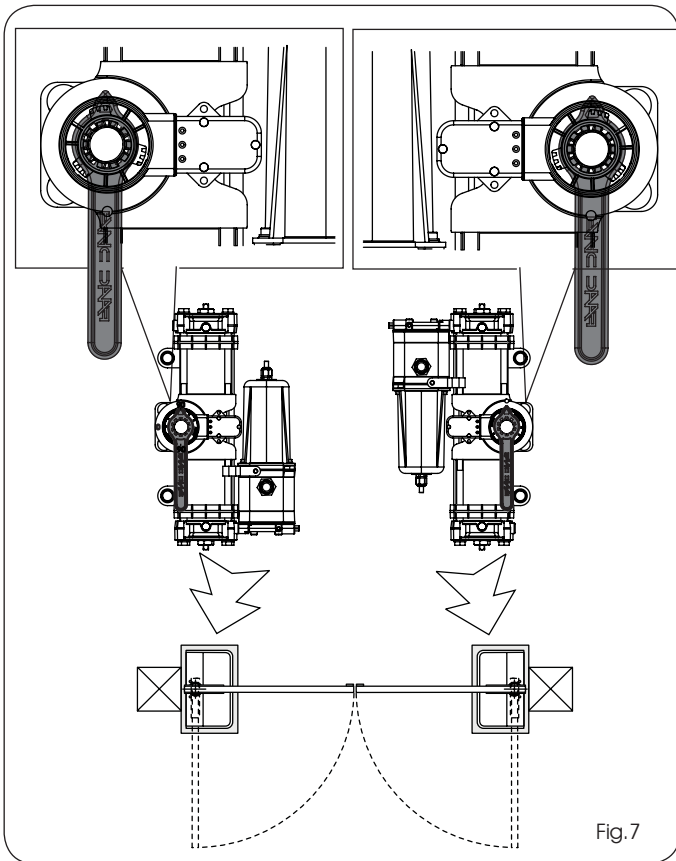

Fig. 7
7) Turn the operator pinion with the supplied wrench until it points to the open position (90° from close) and then remove the wrench (see Fig. 7)